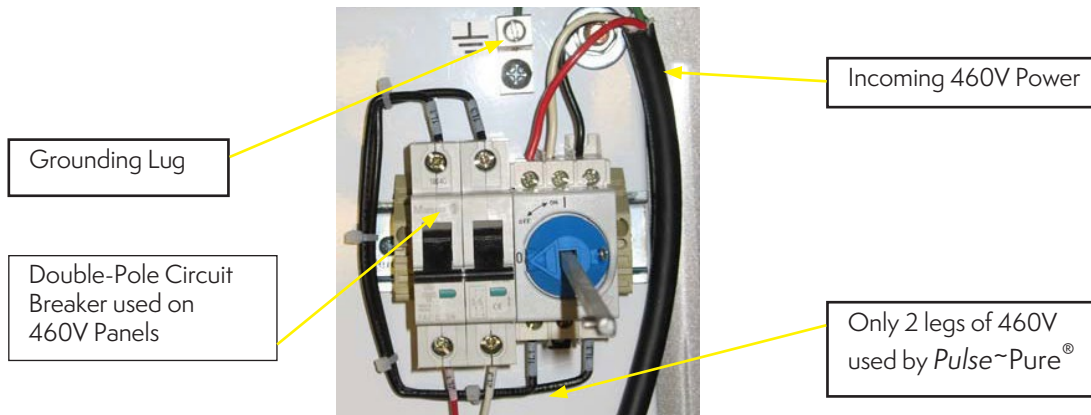

Figure 4. 460 Volt Incoming Power Wired to Disconnect
The power disconnect for the 460 Volt panel has three terminals for hot lines: line 1 (L1), line 2 (L2), line 3 (L3), and a grounding lug for the ground wire (G). **Figure 4** illustrates a disconnect wired for 460 Volt incoming power.